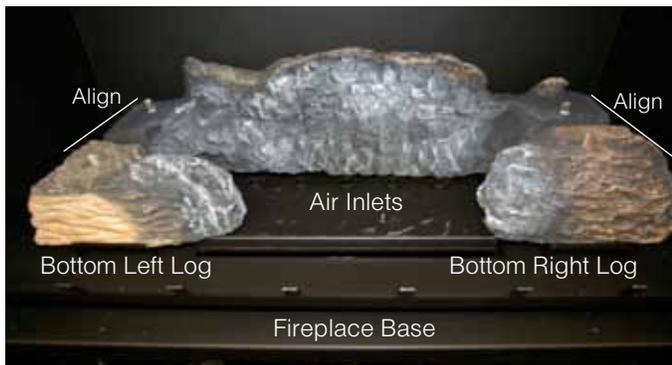

Figure 30b. Placing Bottom Right / Left Logs.
Step 3. Place the bottom Right and Left logs as shown in figure 30b.
Arrange the ember chips on top of the burner tray. Care should be taken when placing the embers, as blocked burner ports may cause an incorrect flame pattern, carbon deposits and delayed ignition. Also, the embers must never be placed in a way that obstructs any of the air inlet ports, located at the rear of the burner, as shown in figure 30b.